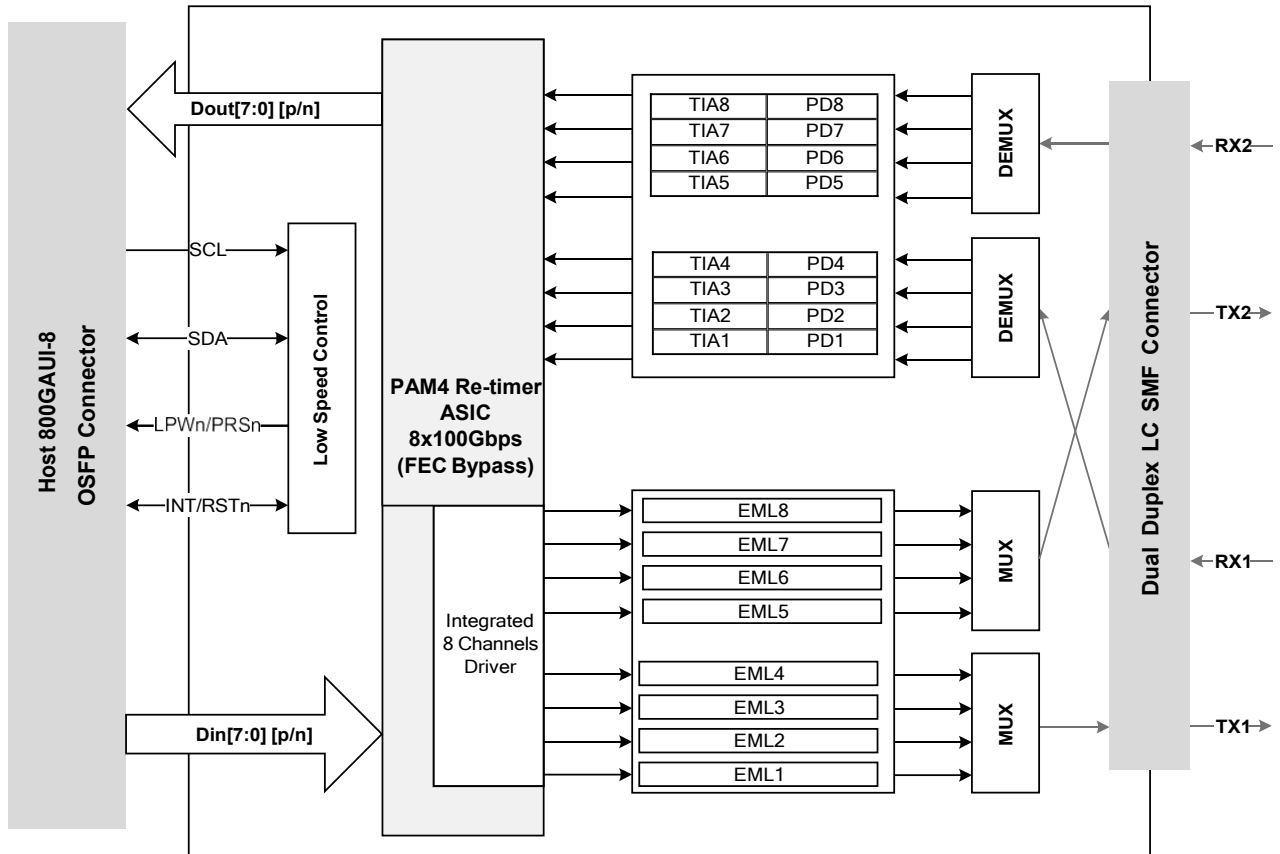

Figure 1: Transceiver Block Diagram
As shown in Figure 1, the transmitter path of the transceiver contains an 8x100Gbps 800GAUI-8 electrical input with Equalization (EQ) block, integrated electrical multiplexer, integrated 8 Channels driver, 8 externally modulated lasers, optical multiplexer and diagnostic monitors. The integrated electrical multiplexer and integrated driver converts 8 channels of 100Gbps (PAM4) electrical input data to 8 channels of 100Gbps (PAM4) parallel optical signals. The transmitter complies with EN 60825 and CDRH Class 1 human eye safety compliance.
As shown in Figure 1, the receiver path of the transceiver contains optical de-multiplexer, eight PIN photodiodes, trans-impedance amplifiers (TIA), integrated de-multiplexer and 8x100G 800GAUI-8 compliant electrical output blocks. The PIN-TIA and integrated de-multiplexer converts 8 channels of 100Gbps (PAM4) parallel optical signals to 8 channels of 100Gbps (PAM4) electrical output data.